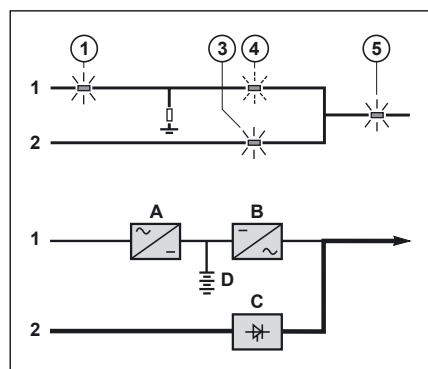

Fig. 11
See figure 11.
- no battery discharge (see figure 11). When bypass AC source power supply (2) is restored or returns to within specified tolerances, the load is transferred back to the static bypass (C), without an interruption in the supply of power.